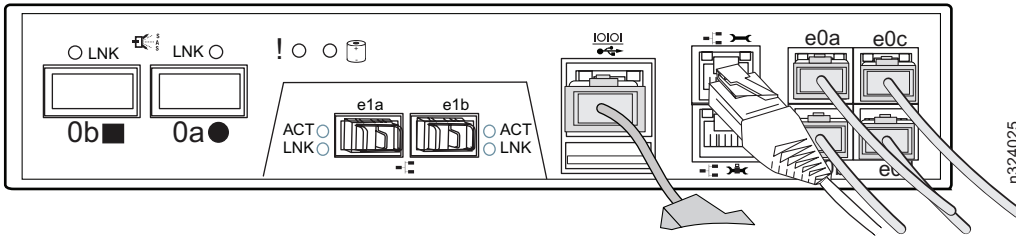

Figure 12. Cabling the management port from the system to the network
4. Connect the management port from the system to the network, using an Ethernet cable (as shown in Figure 12 on page 8).